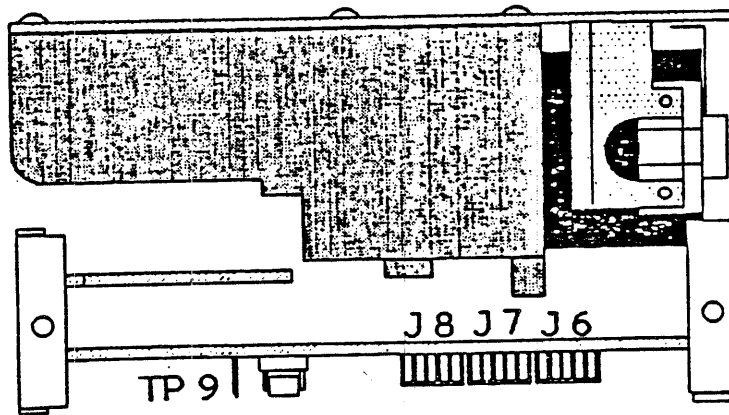

Figure 2 - HDA End View
2. Remove the System ROM from the piggy back on the 28 then install the Format Firmware. Locate the connectors J6, J7 and J8 (shown in Figure 2) that connect the HDA to the analog board. They are a constant source of problems. Move the wires around and make sure that they are securely fastened to the connectors. Connect an external LED to P4 (shown in Figure 1).